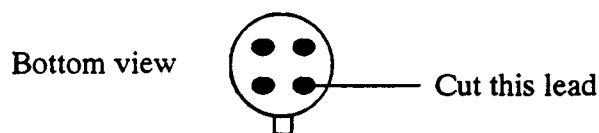

Figure 1
- () 1. Locate the four (4) 151-0951-00 transistors and cut off the ground lead. See figure 1.